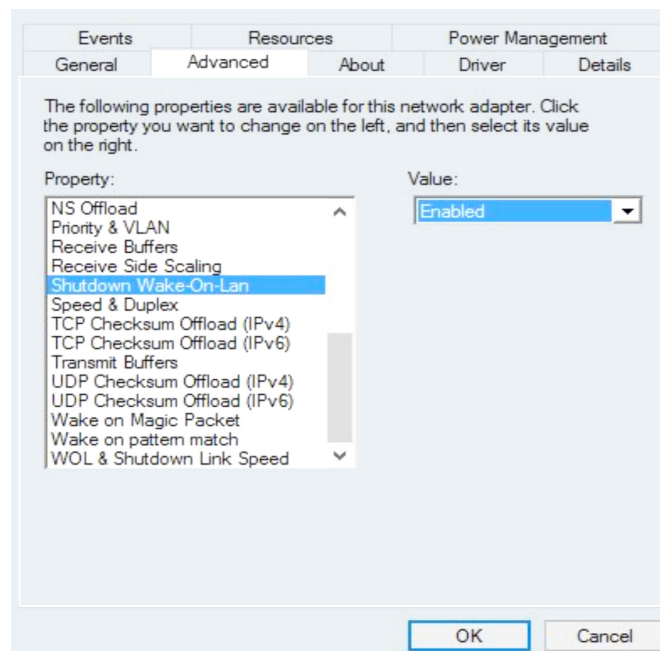

FIGURE 5-2. PROPERTIES SCREEN
- 4a. Select Shutdown Wake-on-LAN "Enabled" as shown in Figure 5-2.